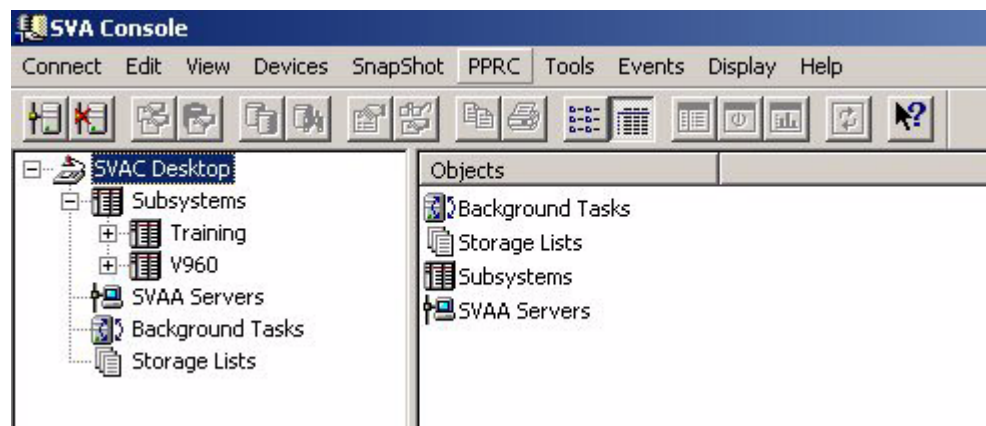

Figure 12 Select PPRC
1. Left-click on "PPRC" from the top menu bar as shown in Figure 12.